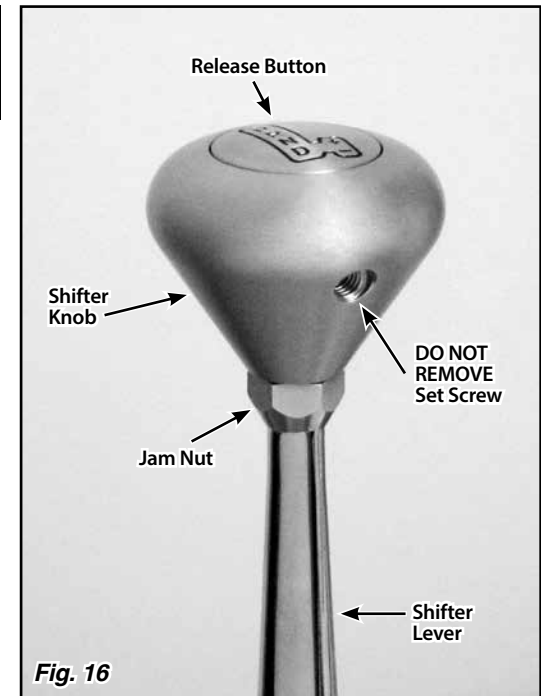

Fig. 16
- Step 2:** Loosen the jam nut below the shifter knob. **DO NOT** loosen or remove the set screw that is in the knob. **Fig. 16**